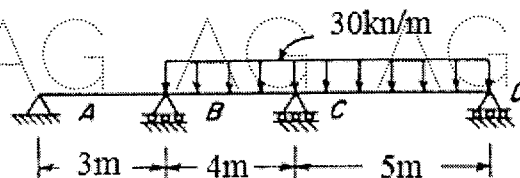

Figure 2
2. Analyze the continuous beam shown in Figure 2 using Kani's method. [10]